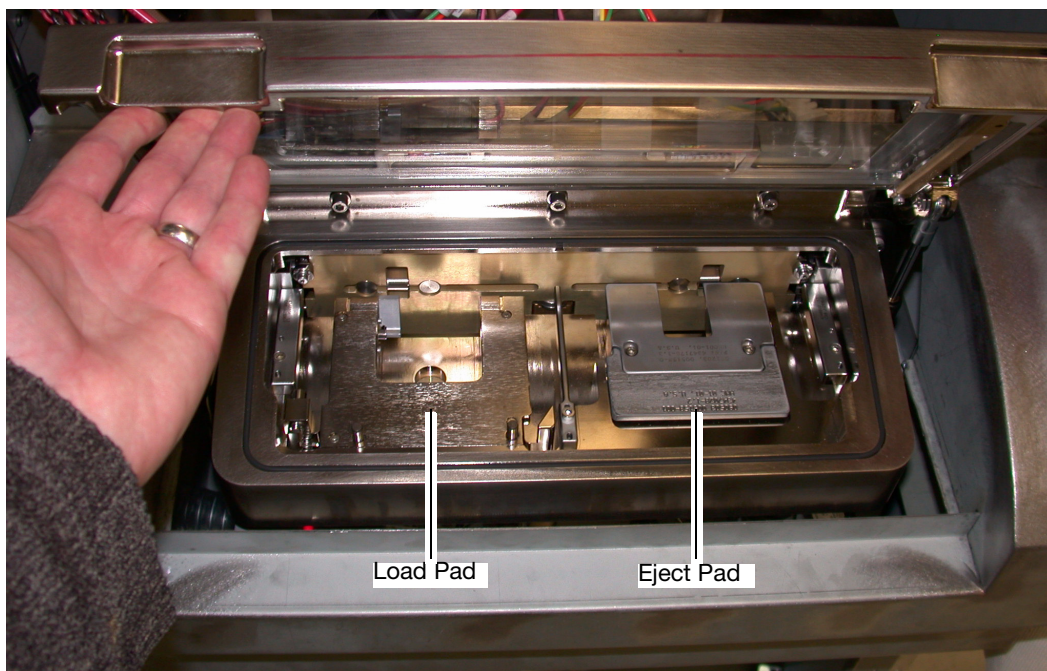

Figure 3-6 Sample Loading Chamber
2. Open the sample loading chamber (Figure 3-6).